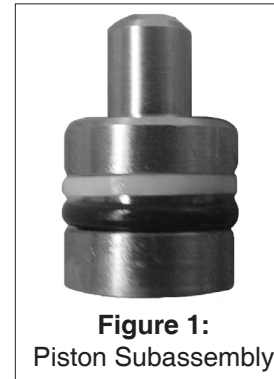
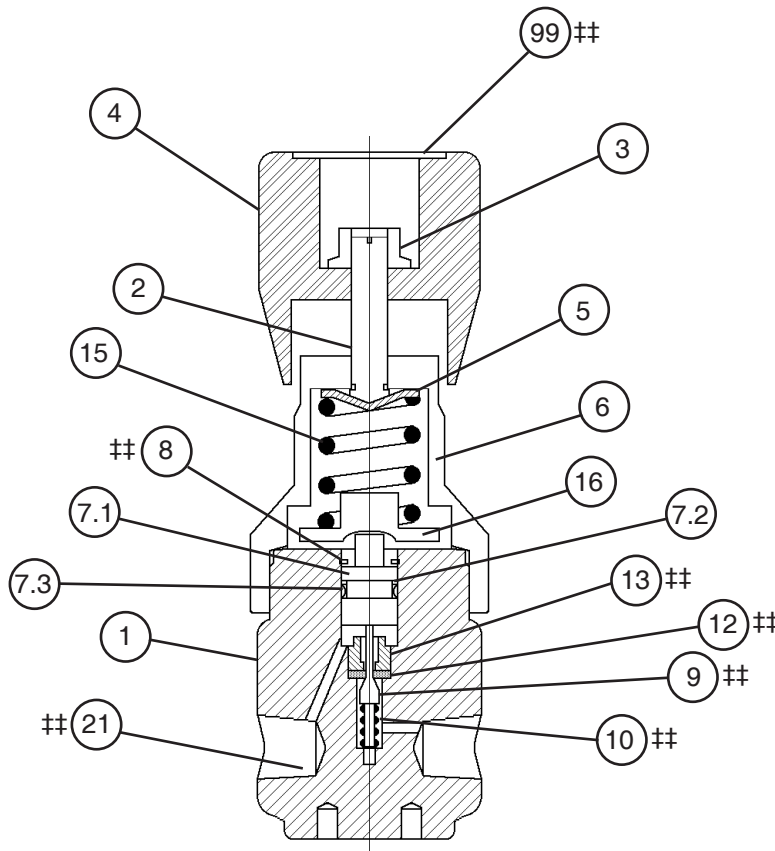

Figure 1:
Figure 2: Model P5
3. Refer to Figure 2 for Model P5 basic regulator and Figure 1 for the piston subassembly.